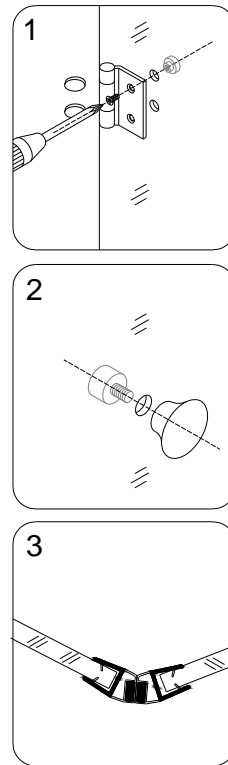
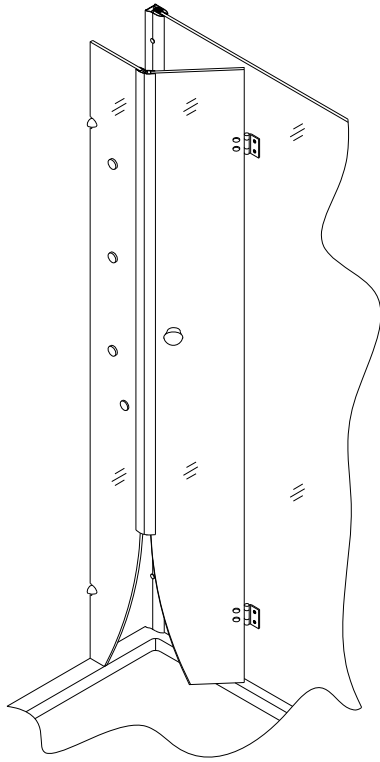

Fig 16
Fig 17
13. Install the **Hinges (29)** onto the **Stationary glass (26)** and the **Glass door (27)**. After the hinges are installed open and close the door to make sure it's nice and smooth. Install the **Handle (32)** to the **Glass door (27)**. Push on the **Magnetic strips (33)** on the **Stationary glass (26)** and the **Glass door (27)**. See Fig 16 and Fig 17 for details.